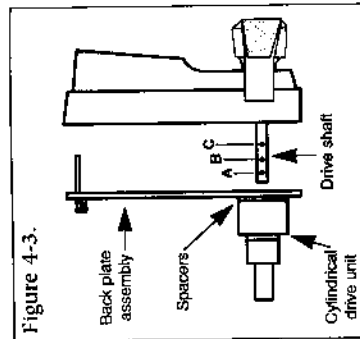

Figure 4-3.
5. Add a cross pin (item "H" on the checklist) in position **A** on the drive shaft (see Figure 4-3).